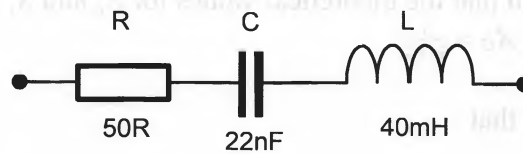

Figure 6
1. What is the resonant frequency of the circuit in Figure 6?